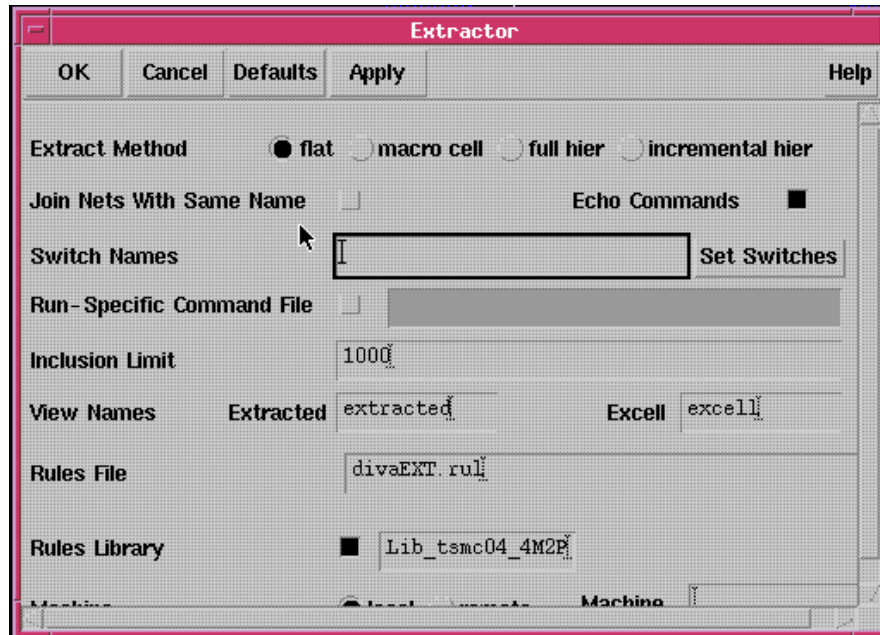

Fig.19. Extractor
- In *Layout Editing* window, select **Verify --> Extract...** Fig. 19 should appear.